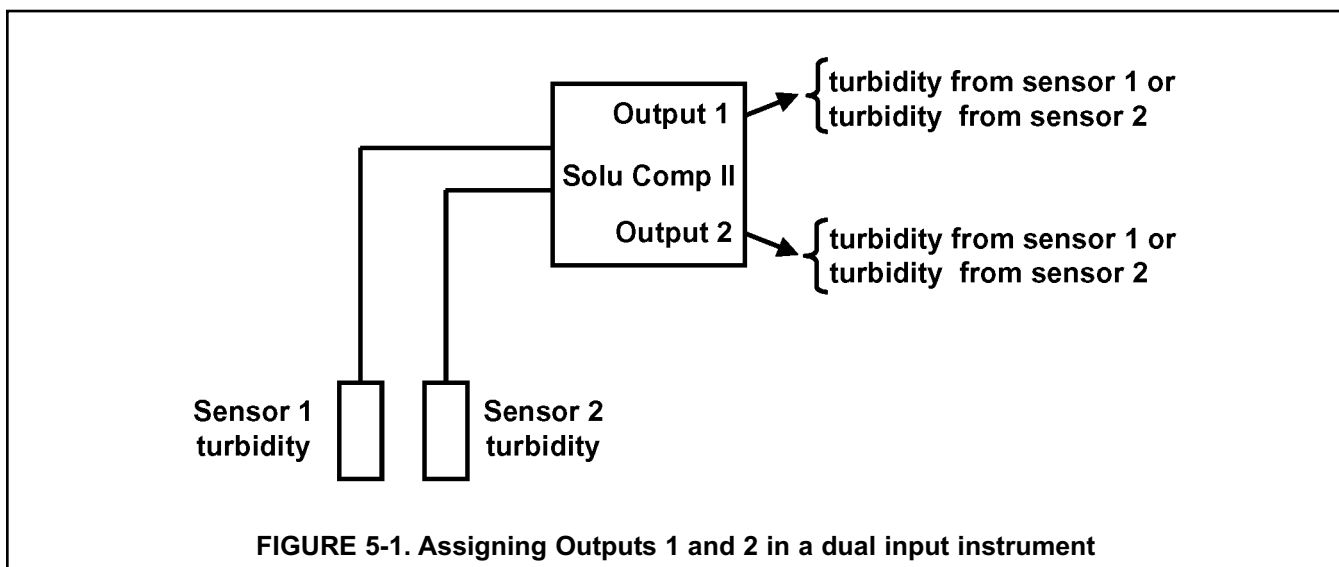

FIGURE 5-1. Assigning Outputs 1 and 2 in a dual input instrument
2. **ASSIGNING OUTPUTS.** Figure 5-1 shows the ways in which the outputs can be assigned in a dual input analyzer. The single input analyzer has only one output.